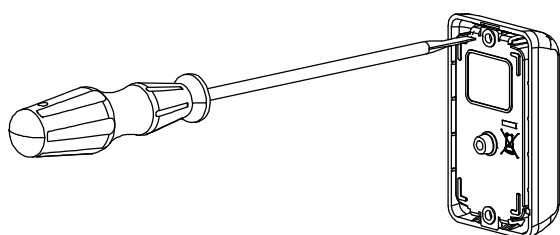

Figure 1
- Using a screwdriver, remove the cover from the reader (see Figure 1).